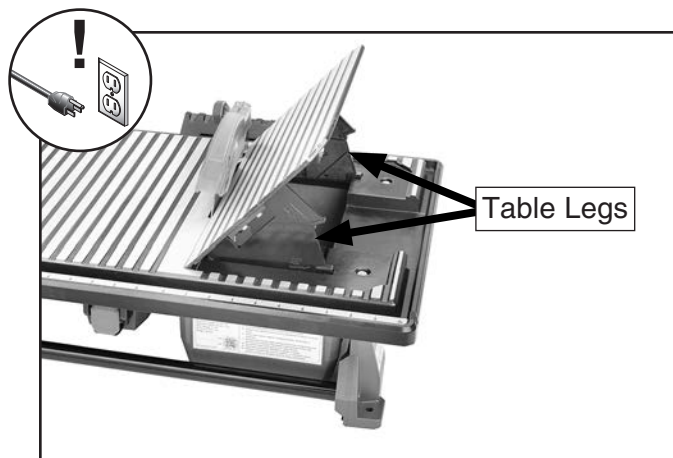

Figure 27. Bevel table set to 45°.
3. Tilt bevel table up and adjust insert table legs to desired angle stop (see **Figure 27**).